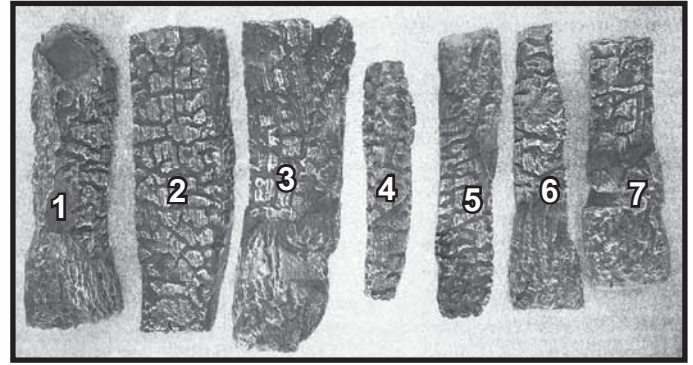

Figure 11. Log Identification - EXCURSION-II, TRILLIANT30I
**NOTICE:** To simplify the installation process, use Figure 11 to positively identify each individual log before beginning installation.